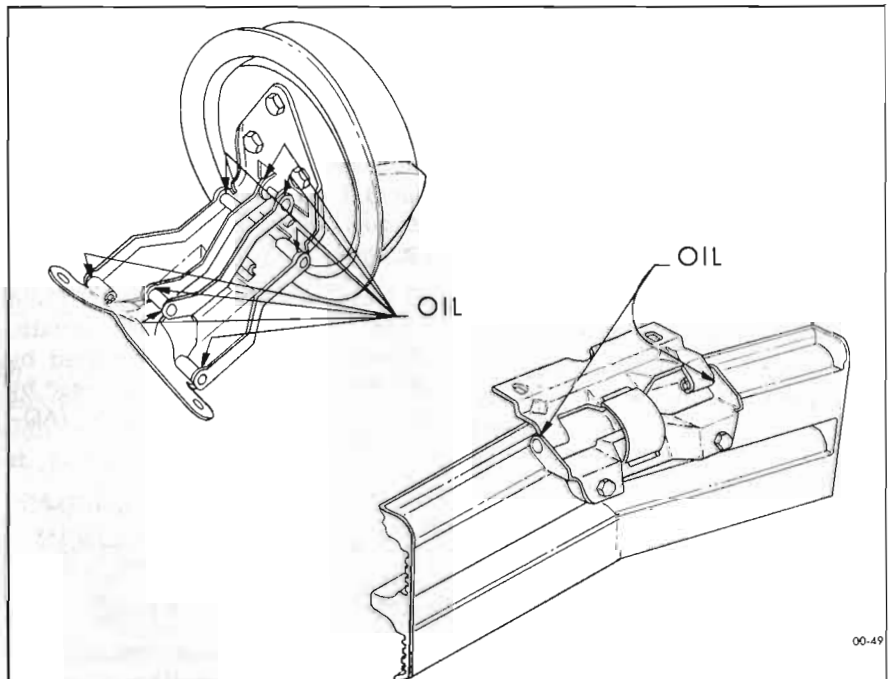

Figure 00-49—Gas Tank Filler Door
- Gas Tank Filler Door. See Figure 00-49.